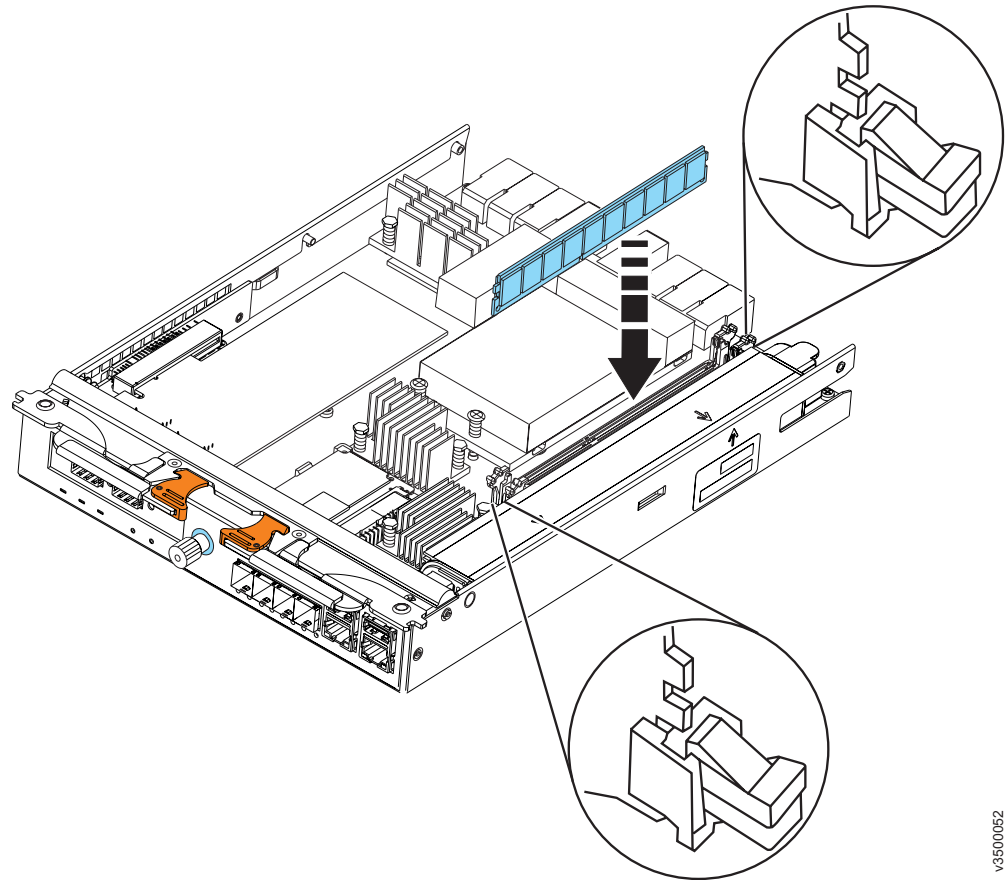

Figure 20. Installing memory module option
1. Open the retaining clip on each end of the memory module connector as shown in Figure 20.
5. Insert the memory module into the connector by aligning the edges of the module with the slots at the ends of the connector (see Figure 20).